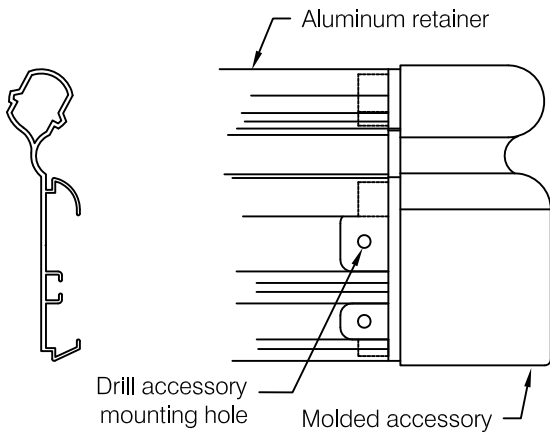

fig 3
**Step 5** Insert molded accessories into end of retainer, press firmly to ensure molded part is seated squarely against the end of the retainer. Drill accessory mounting holes using the accessory as the template, see **fig. 3**.